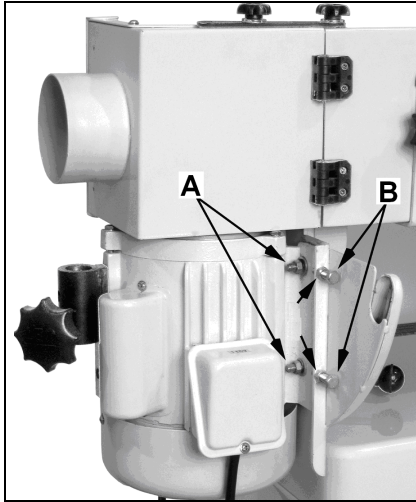

Fig 15
Slightly loosen the four motor mount nuts (A, Fig. 15) just enough so the tracking bolts (B) can make an adjustment.